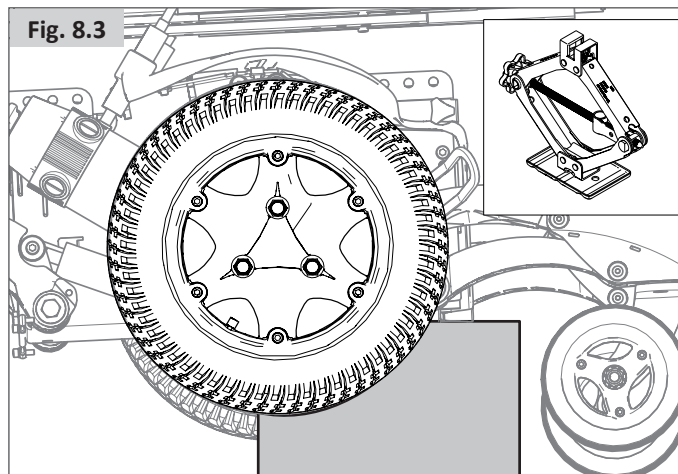

Fig. 8.3
- Jack the base/battery box up and support it using blocks, (Fig. 8.3).